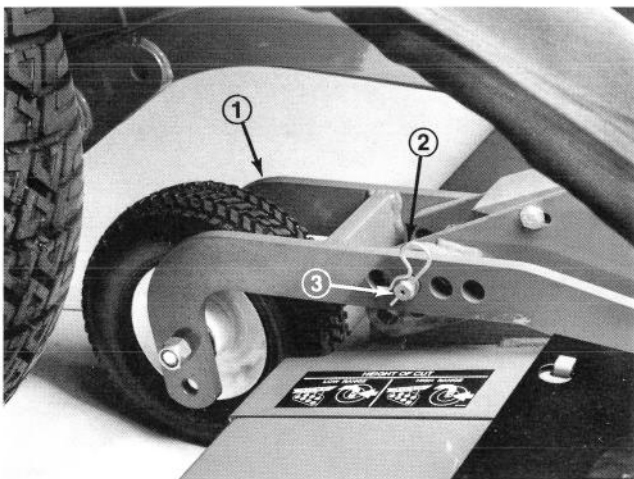
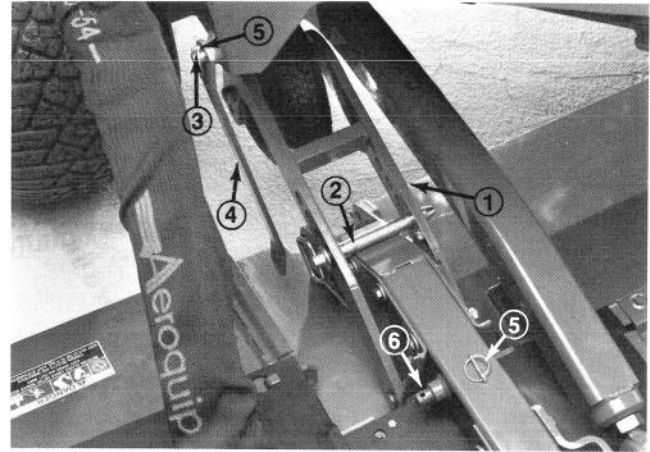

Figure 58
Figure 59
3. Remove hairpin cotters and clevis pins from the (2) rear castor assemblies (Fig. 58). Set the left hand clevis pin aside and insert the right hand clevis pin into the most forward holes in the castor wheel arm on the right side of the unit (Fig. 59). The castor arm and pin should be resting on top of the unit.
5. Fit deck tilt link over weldment on the right side of traction unit and secure with klik pin. Position link so it clears when cutting unit is raised. Keep remaining klik pin handy to secure opposite end of link to cutting unit arm weldment (Fig. 59).